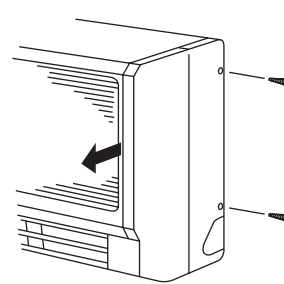

Fig. 3-48
- Remove the 2 screws and slide out the side cover. (Fig. 3-48)
- Remove the 2 screws and take off the side cover. (Fig. 3-48)